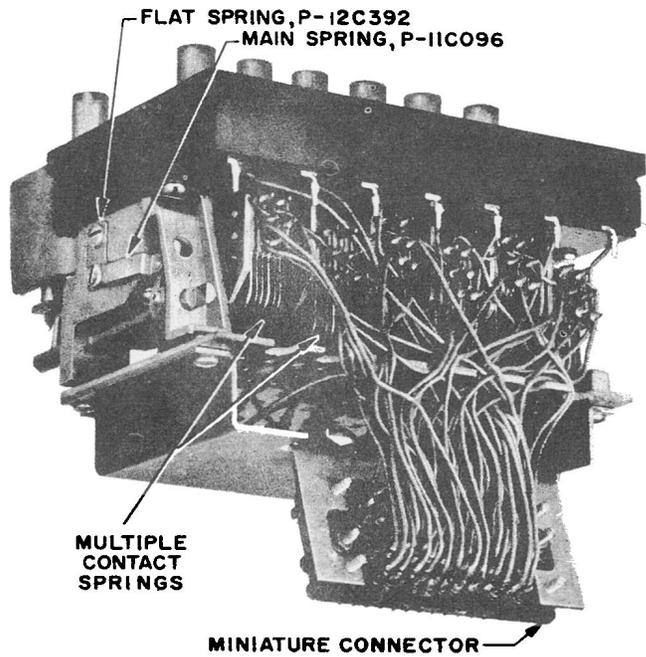

Fig. 9 - Originating Key, Side View
3.18 The 700E originating key is used in 112A key equipment installations. The contact springs and wiring are adequate for telephone wiring plan use. Multiple contact springs and one lamp socket per pickup key are wired to a miniature male connector (Fig. 9).